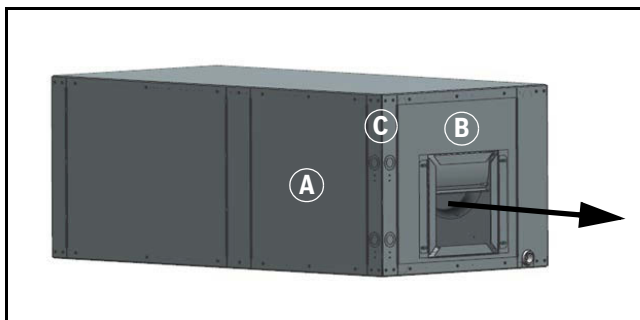
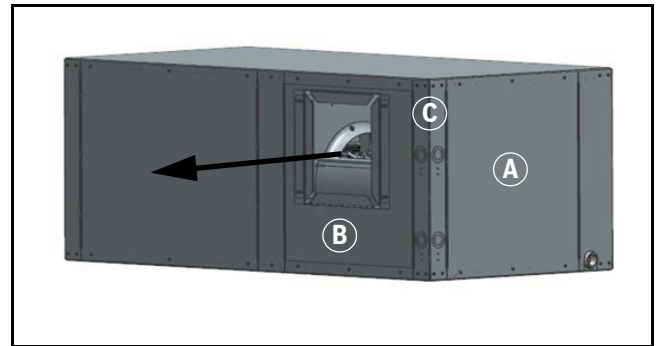
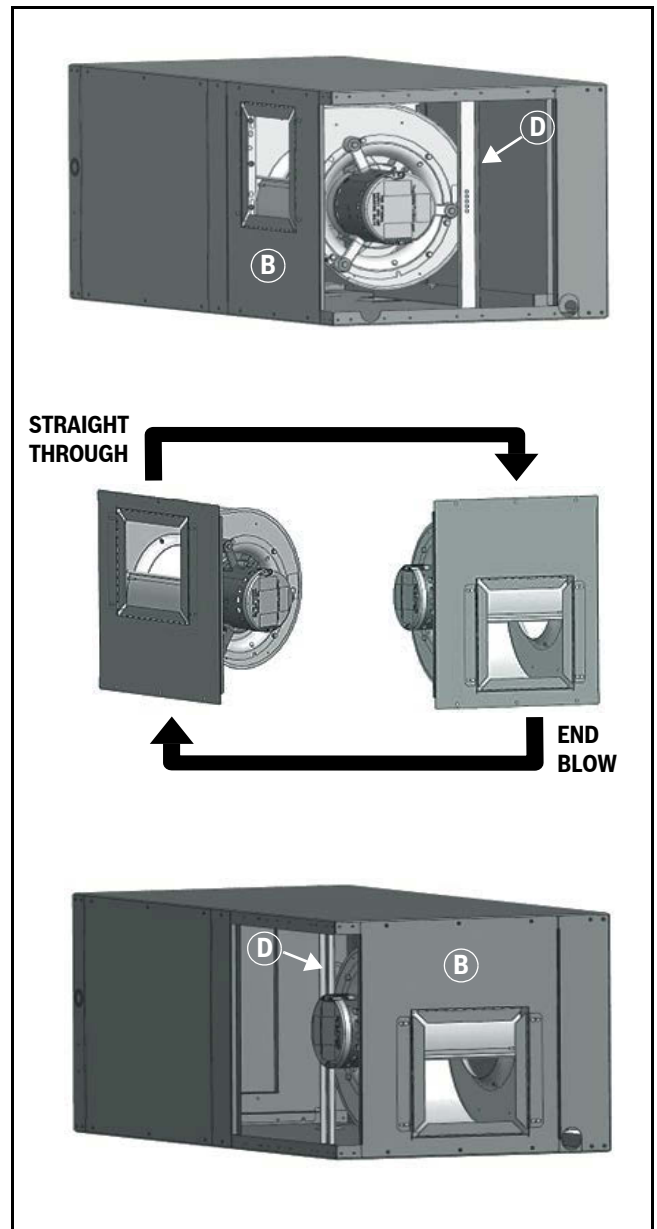

Fig. 3 End-Blow Orientation
Fig. 4 Straight-Through Orientation
Fig. 5 Blower Configuration
(→ See Fig. 3, Fig. 4, and Fig. 5.)
3. Locate Blower Panel (B). Remove the three screws from top and the three screws from bottom of the panel. Leave the blower panel in place on the base pan.
4. Locate Access Panel Corner Post (C). Remove the four screws from top and the four screws from the bottom. Remove the corner post and set it aside.
5. Locate Blower Support Bracket (D). Remove the one screw and set it aside.
6. Move Blower Panel (B) with blower to desired location, rotating it 180°. (→ See Fig. 5.) The motor power and control harness can be unplugged to facilitate blower relocation.
7. Reinstall Access Panel Corner Post (C) using the eight screws previously removed.
8. Fasten Blower Panel (B) using the six screws previously removed.
9. Reinstall and fasten Blower Support Bracket (D) using the one screw previously removed.
11. Reinstall and fasten Motor Access Panel (A) using the six screws previously removed.
HZ units must be installed pitched 1/4" towards the condensate drain connection in both directions to facilitate condensate removal. (See Fig. 5.)